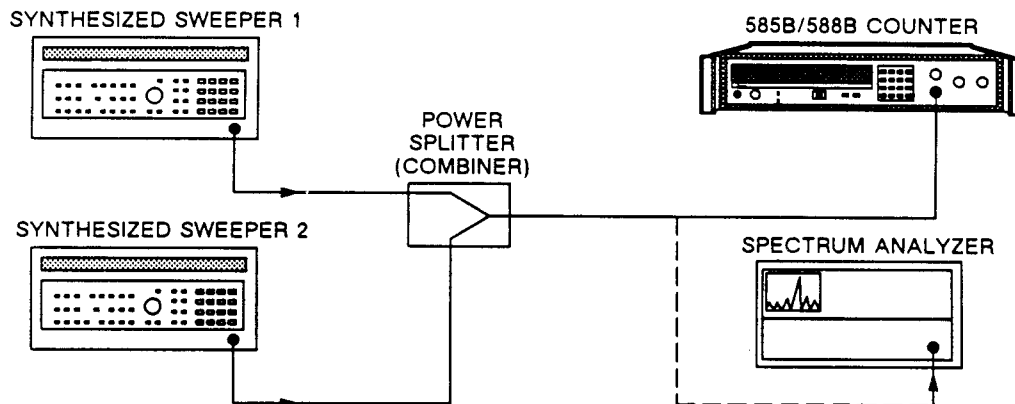

Figure 8-6. Band 1 Amplitude Discrimination Test Setup.
1. Connect equipment as shown in Figure 8-6.